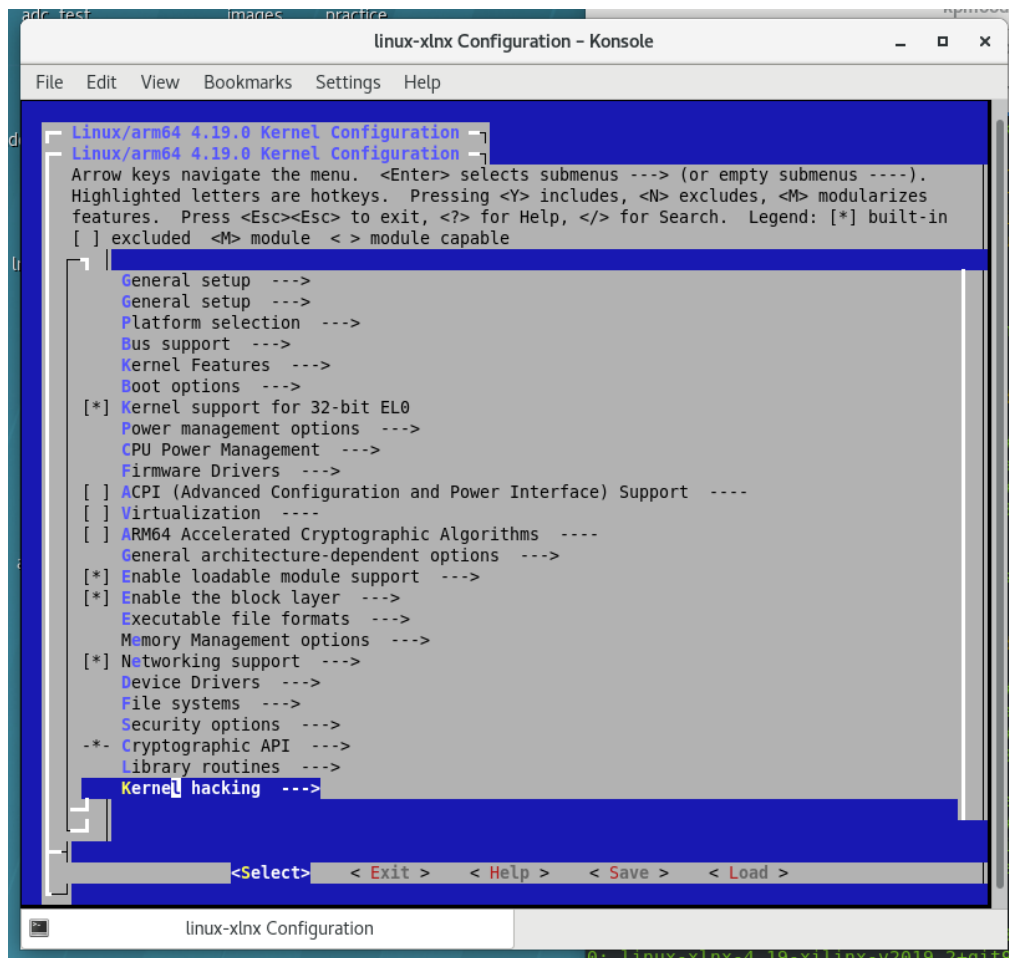
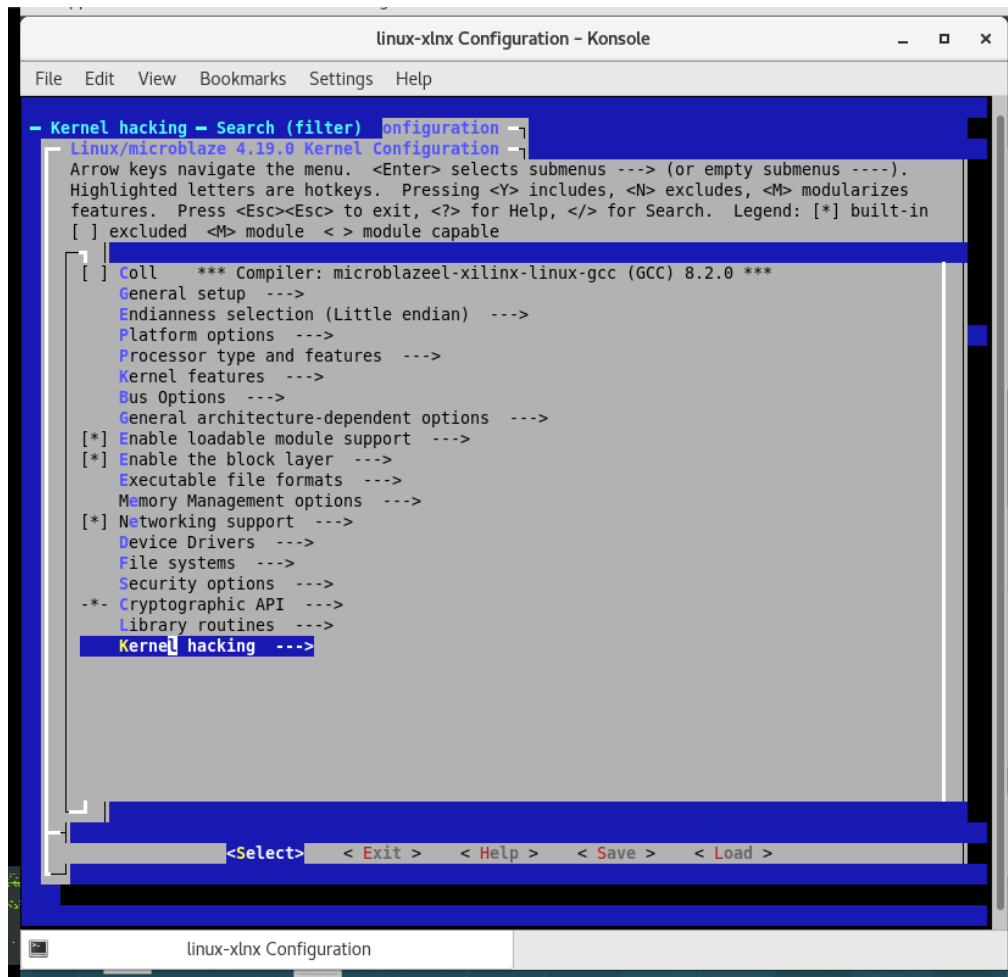

Figure 8
Figure 9
2. From in the root directory of the PetaLinux project, in a terminal which already has the PetaLinux tools environment set up, **run the petalinux-config command with the kernel component as shown** to open the kernel configuration GUI shown in Figure 8. Unfortunately this GUI has some formatting issues, but everything is still visible.
3. Click on “Kernel hacking” option, which is highlighted at the bottom of Figure 8.
Additional Information: One key takeaway from these brief steps is that there are *many* configuration options that the user can control. In Figure 8 you can see configuration options for drivers, the filesystem, booting, power management, cryptography, etc. and within each of these, as we saw with the kernel hacking option, there are several modules which can be enabled or disabled.
smaller, and general use-case is unique from the ARM processors on Zynq-7000 and ZynqMP chips. The kernel config window for a MicroBlaze PetaLinux project is shown in Figure 9 to show its contrast from Figure 8.